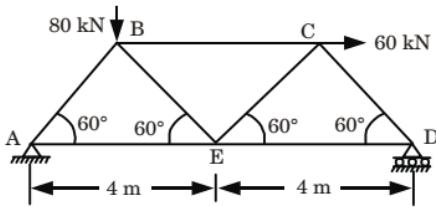

Fig. 2.15.1.
**Que 2.15.** Analyze the truss shown in Fig. 2.15.1 by the method of tension coefficient and determine the forces in all the members.